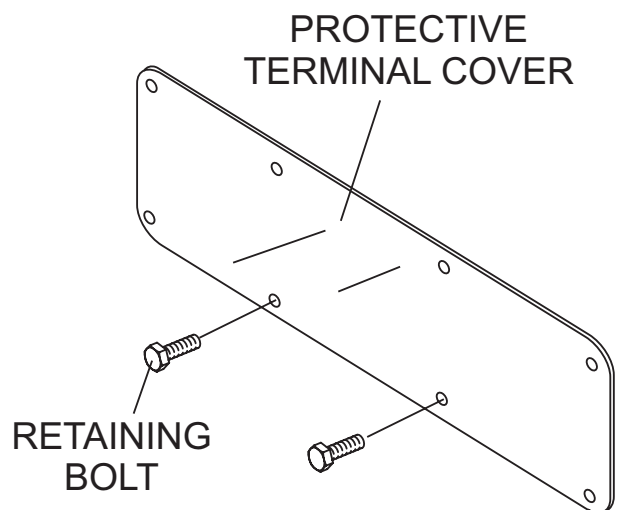

Figure 14. Protective Terminal Cover (Output Terminal Lugs)
The output terminal lugs are protected by a **protective cover** (Figure 14). Unscrew the retaining bolts (8) and remove the cover to gain access to the output terminal lugs.